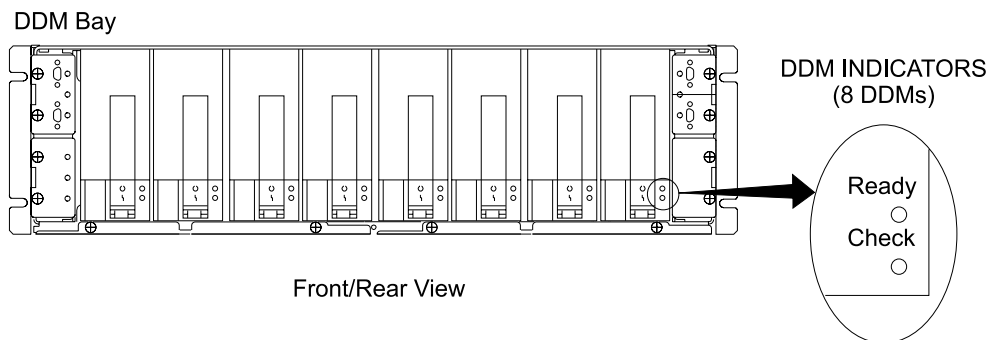

Figure 88. DDM bay DDM Indicator Locations (S008021)
20. Locate the DDM bay, it may be located in the front or rear of the 2105. Observe all of the DDM bay DDM indicators, see Figure 88 on page 178.